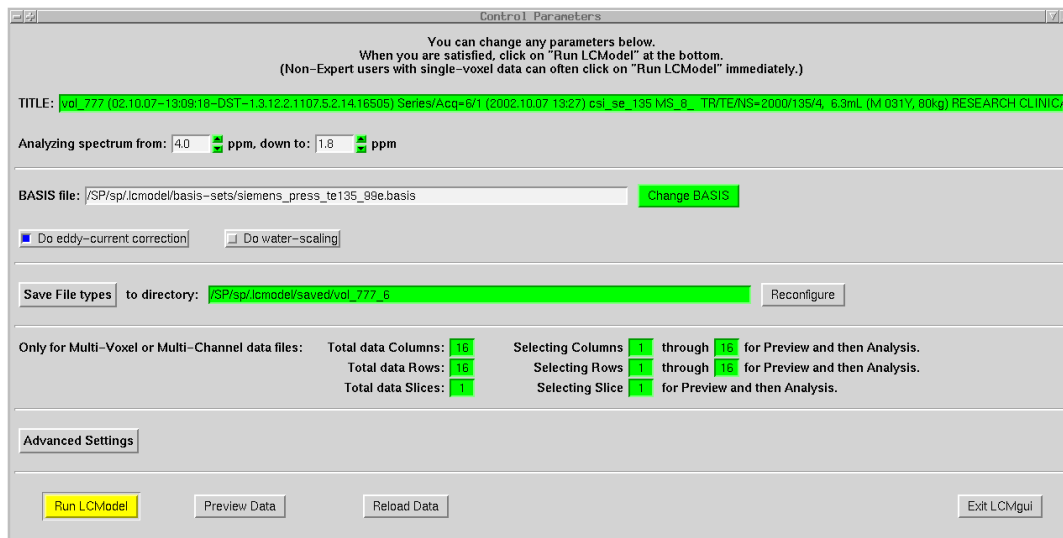

Figure 6.4: The Control Parameters Window
- Click on “Run LCMModel” (Fig 6.4 in Sec 6.4).
After you click the “OK” button in the File Selector, the second of the two most important windows, the “Control Parameters” window (Fig 6.4), appears. LCMgui remembers most of the settings from the previous session. Thus, Normal Users often can simply click the yellow “Run LCMModel” button at the bottom to start the LCMModel analysis. (Yellow is generally used to show you the usual path to take.)
In the second row in Fig 6.4, the entries next to “**Analyzing spectrum from:**” define the Analysis Window, the ppm-range over which the spectrum will be analyzed (Sec 3.4). You can change this range by clicking on the green up or down arrow next to the value. (Green usually indicates fields that you can click on or edit to make changes.)
In the third row in Fig 6.4, the entry next to **BASIS file:** shows the pathname of the .BASIS file containing the model spectra that will be used to analyze your data. If the .BASIS files are installed as specified in Sec 7.2.4, then LCMgui should automatically select the proper one, if it exists. Also LCMModel normally produces diagnostics if the .BASIS file does not match your data.
Users with Toshiba, Marconi/Picker data or GE Probe P-files can skip Sec 6.3.3 since eddy-current correction (ECC) is done automatically. Other users only have to set this as default the first time for future analyses. In the fourth row in Fig 6.4, a mouse-click switches the button for ECC between active (blue) and inactive (no ECC). (Blue usually indicates a button that is switched on.)
**TITLE:** This field at the top of Fig 6.4 will also appear at the top of the One-Page Output. You can edit this field, e.g., to insert comments on location or pathology.
There are several other useful files that can be output and archived by LCMModel. Clicking on “Save File types” in Fig 6.4 produces a menu where you can select which types of output files will be archived. In addition to the .PS file (with the One-Page Output), the .TABLE file (with tables summarizing the results) should be selected.